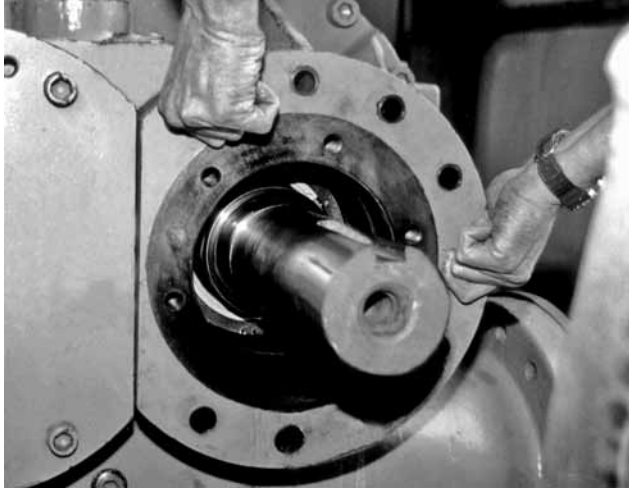

Figure 3.
- See Figure 3. Loosen capscrews evenly on seal housing cover (2) until spring pressure is released. Remove capscrews, seal housing cover (2) and shims. Remove seal housing spacer (6), using a seal removal tool. Remove coil springs from seal housing spacer. Remove cast iron seal seat/bellows seal (4) and discard*. Remove seal distance ring (5) and retain. Wave springs (7) can be removed if desired.